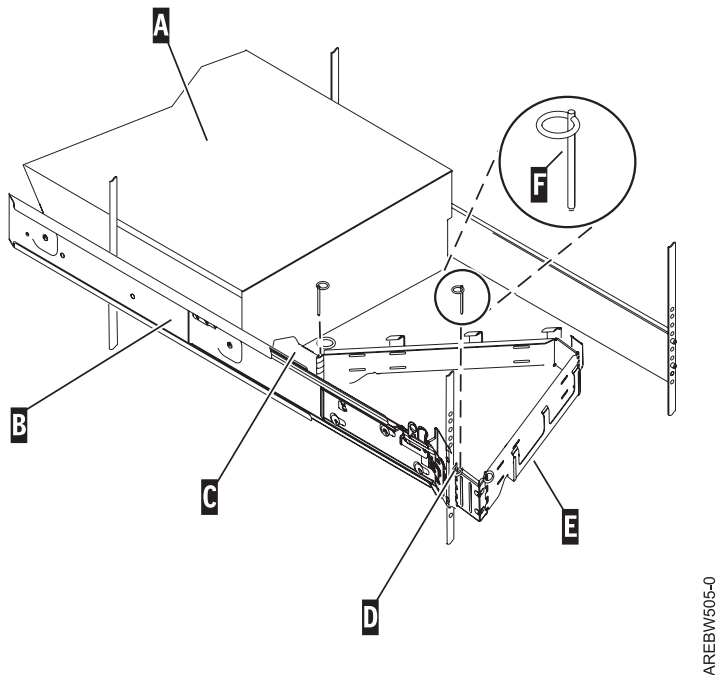

Figure 36. Attaching the cable-management arm.
3. Use pin **F** to pin the cable-management arm **E** to the rack frame **D** as shown in Figure 36.
4. Use the second pin **F** to pin the other end of the cable-management arm to the flange **C** that is attached to the sliding portion of the left system rail assembly **B** as shown in Figure 36.